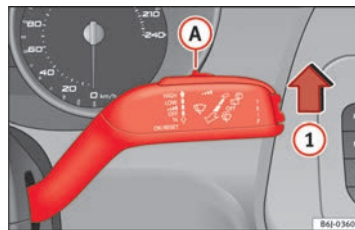

Fig. 71 Windscreen wiper lever.
- Move the windscreen wiper lever into position ① ⇒ Fig. 71.
- Move the control ① to the left or right to set the sensitivity of the rain sensor. Control to the right: highly sensitive. Control to the left: less sensitive.